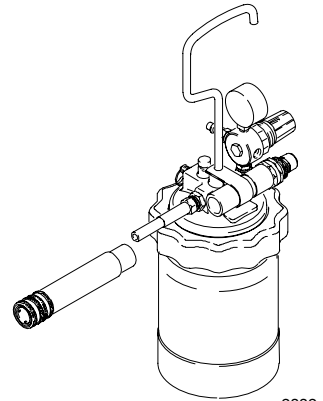

Fig. 5
1. Relieve pressure from remote pressure pot as follows (see Fig. 5):
- b. Turn **out** pressure relief knob (133) one turn. Wait until pressure is completely relieved before you remove cover. Close knob.